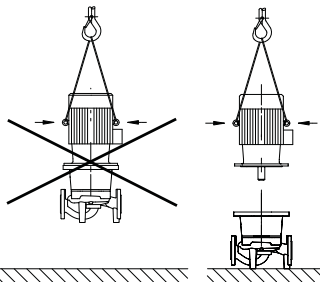

Fig. 5: Attaching the motor
- The transport eyes on the motor are only for transporting the motor, and are not approved for transporting the complete pump (Fig. 5).